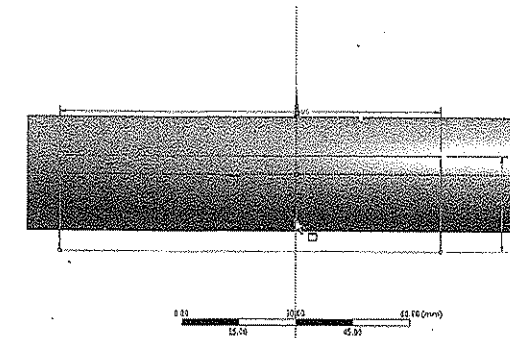

Figure 5-44 Selecting the axis of symmetry
12. Invoke the **General** tool from the **Dimensions** toolbox and place the horizontal and vertical dimensions for the rectangle, refer to Figure 5-44.
16. Select the vertical axis to specify the axis of symmetry, as shown in Figure 5-44; you are prompted to select the first point or 2D edge to apply the Symmetric constraint.